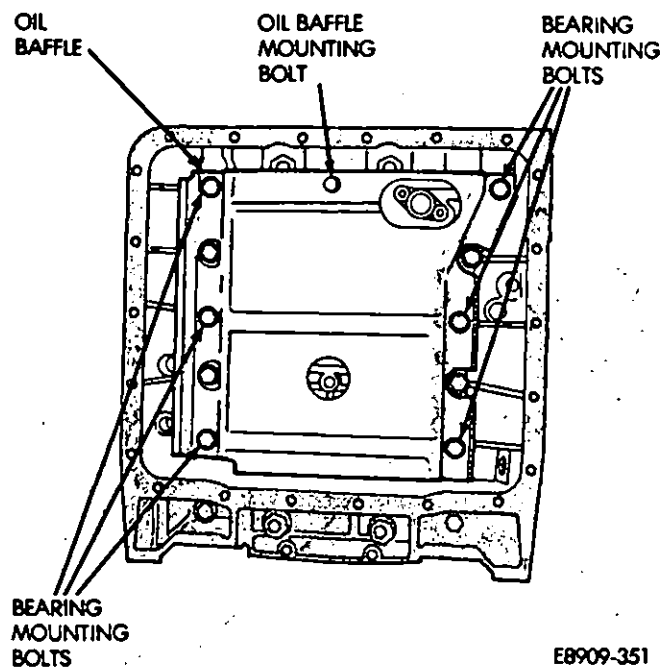

Fig. 4—Oil Baffle
- (1) Remove the oil pan.
- (2) Remove oil baffle mounting bolts (Fig. 4).
- (3) Remove remaining bearing mounting bolts (Fig. 4).
- (4) Remove baffle (Fig. 4).